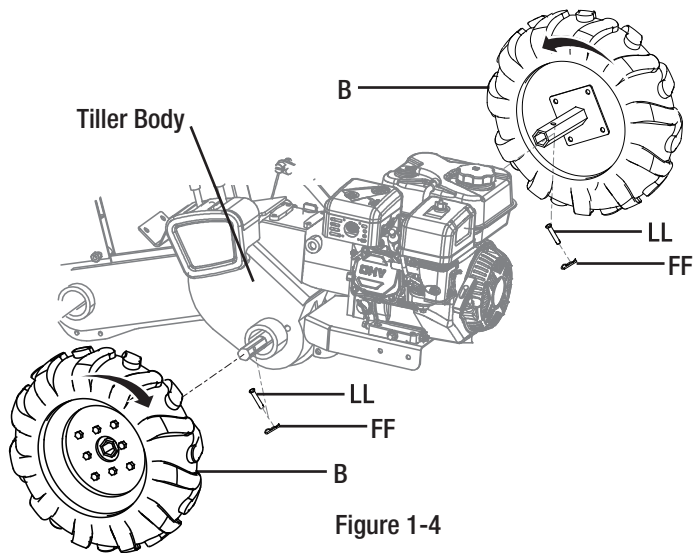

Figure 1-4
- Insert the wheel (B) through the axle on the tiller body. Then place the clevis pin (LL) through the hole on the wheel through the axle to secure the wheel in place. Place the cotter pin (FF) to lock in place. See Figure 1-4.
WARNING: Make sure to install the wheel in the correct direction. See Figure 1-4.